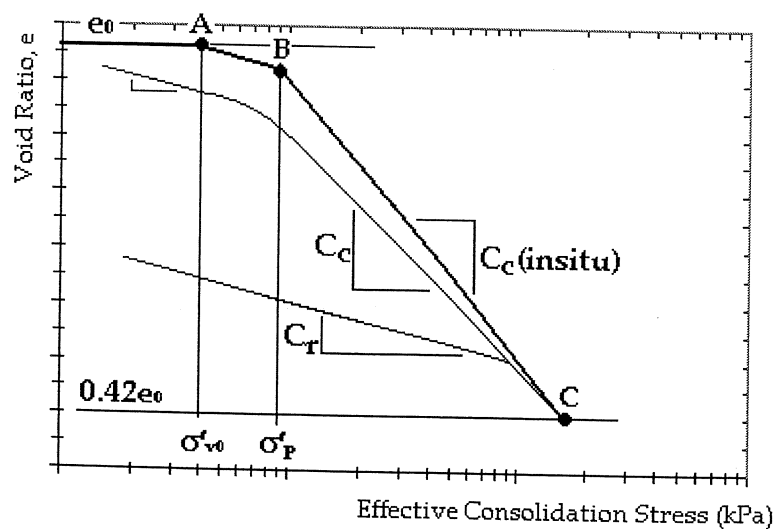

Fig. 7B
- B. Fig. 7B shows the idealised in-situ compression curve obtained during a 1-Dimensional Consolidation Test. Explain how you would determine parameters e_0 and σ'_{v0} . (5 points)